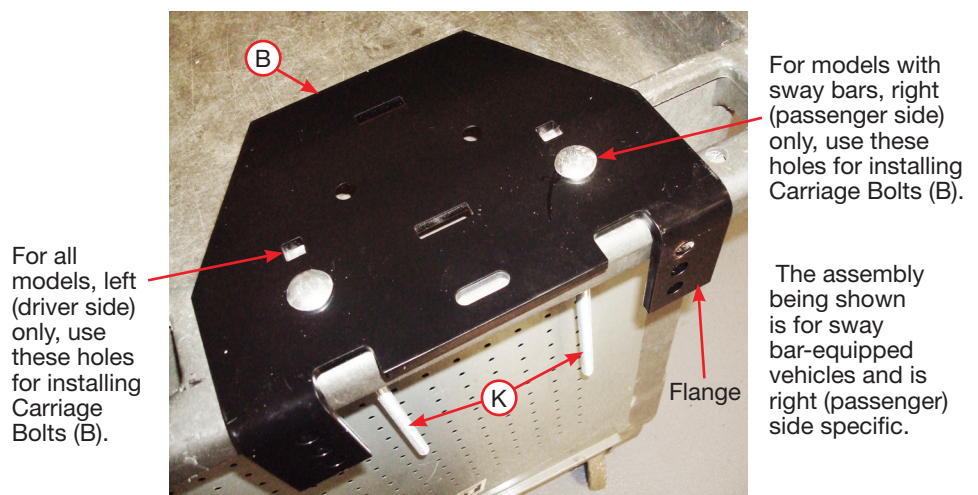

Fig. 11
- Insert two 3/8"-16 X 10" carriage bolts (K) through the square holes in the lower bracket main plate (B) as shown. **For models with sway bars:** use the holes farthest away from the flanges for the left (driver's) side and the holes closest to the flanges for the right (passenger's) side installation (Fig. 11). **For all models without sway bars,** use the square holes farthest away from the flange for both sides of the installation.